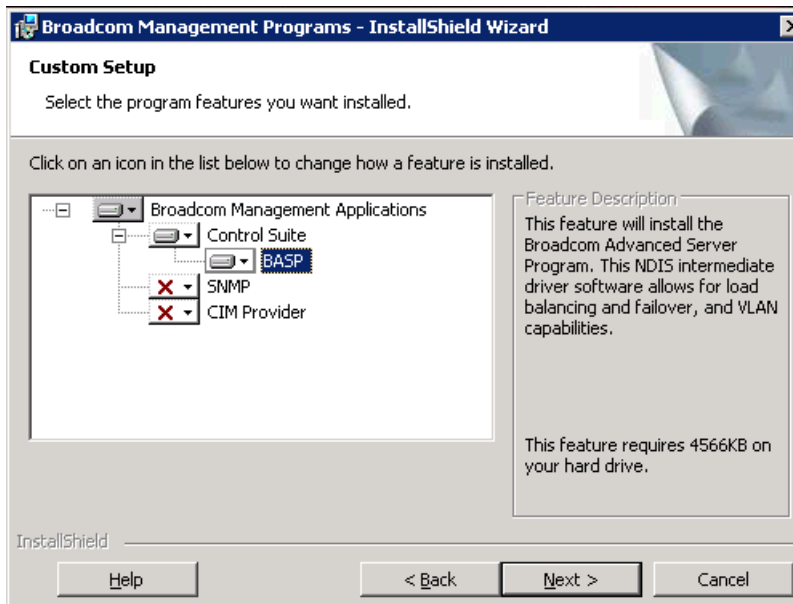

Figure 5-26 The custom setup window
3. On the Custom Setup window (Figure 5-26), the Broadcom Advanced Control Suite (BACS) graphical user interface and the Broadcom Advanced Server Program NDIS intermediate driver (BASP driver) are preselected. At this stage, do not install the SNMP or CIM software. Click **Next** to continue.